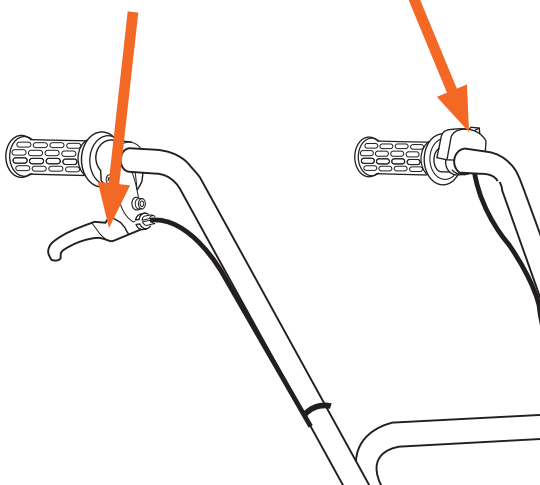

Figure 5
1. Turn the engine's ON/OFF switch to ON (see Figure 5).